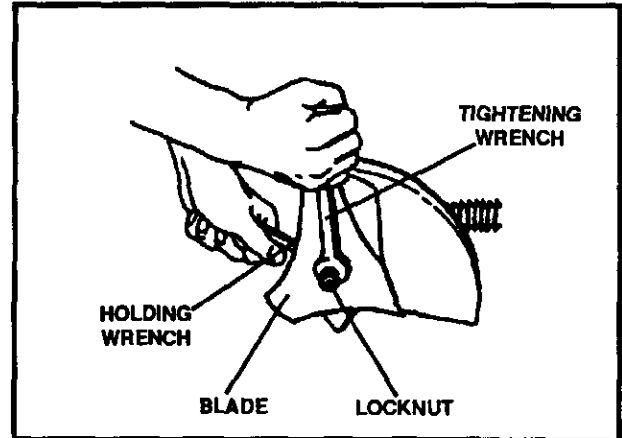

FIG. 14
**CAUTION: WHEN REMOVING OR TIGHTENING THE BLADE NUT, ALWAYS USE THE METHOD SHOWN IN FIGURE 14. THE HOLDING WRENCH MUST ALWAYS BE POSITIONED ON THE NUT BEHIND THE CUTTING BLADE.**
- Remove the 1/2-20 locknut (See Fig. 14) securing the blade to the drive shaft.